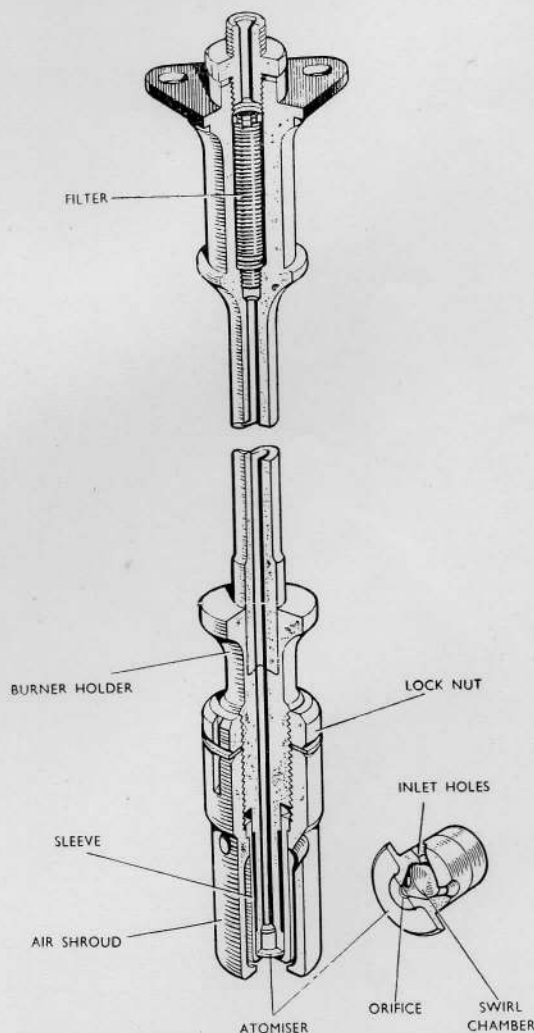

Fig. 1. Sectioned view of type CSH23 burner
2. The essential constructional differences between these are in the design of the holder and the filter. The types CSH23 and CSH24 burners have a holder with a long straight connecting pipe as compared with the short angular pipe of the CSH9 type of burner. The filter assemblies of the CSH23 and CSH24 burners are screwed directly into their holders instead of being retained by means of a spring as on the CSH9. The type CSH23 burner illustrated in fig. 1, has a three hole mounting flange, while the CSH24 type has a two hole flange.